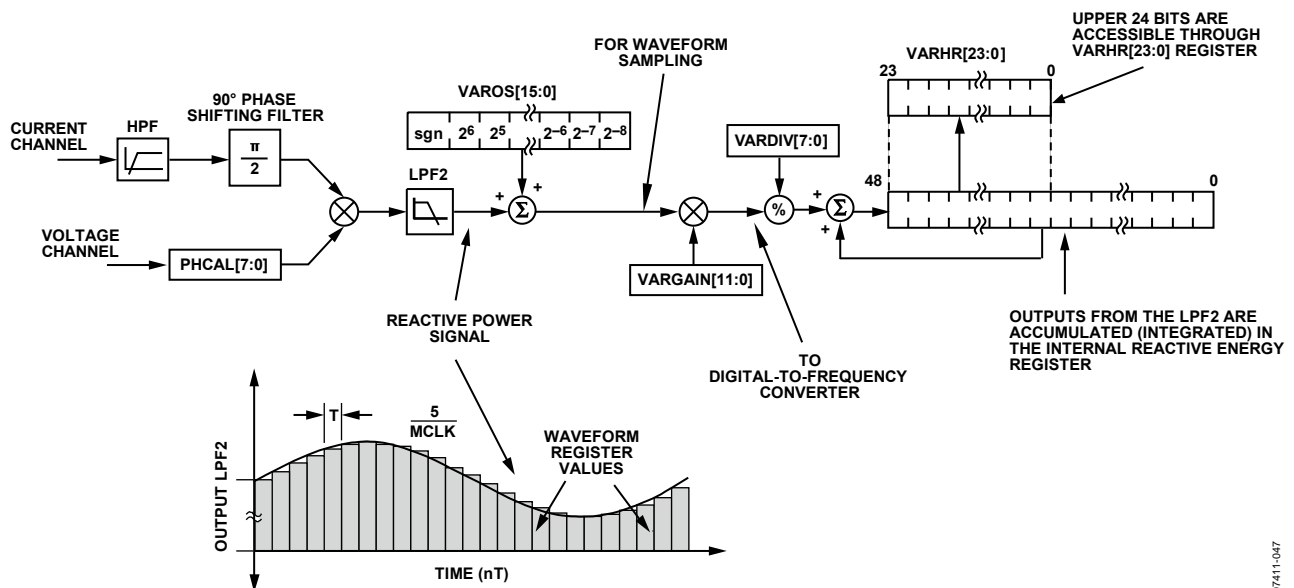

Figure 67. Reactive Energy Calculation
The instantaneous reactive power signal,  $q(t)$ , is generated by multiplying the voltage and current channels. In this case, the phase of the current channel is shifted by  $90^\circ$ . The dc component of the instantaneous reactive power signal is then extracted by a low-pass filter to obtain the reactive power information (see Figure 67).
Figure 67 shows the signal processing chain for the ADE5169 reactive power calculation. As explained in the Reactive Power Calculation (ADE5169) section, the reactive power is calculated by applying a low-pass filter to the instantaneous reactive power signal. Note that, when reading the waveform samples from the output of LPF2, the gain of the reactive energy can be adjusted by using the multiplier and by writing a twos complement, 12-bit word to the var gain register (VARGAIN[11:0], Address 0x1E). Equation 23 shows how the gain adjustment is related to the contents of the var gain register.
The ADE5169 also incorporates a reactive power offset register (VAROS[15:0] (Address 0x21). This is a signed, twos complement, 16-bit register that can be used to remove offsets in the reactive power calculation (see Figure 67). An offset can exist in the reactive power calculation due to crosstalk between channels on the PCB or in the IC itself. The offset calibration allows the contents of the reactive power register to be maintained at 0 when no power is being consumed.
The discrete time sample period (T) for the accumulation register in the ADE5169 is 1.22  $\mu$ s (5/MCLK). As well as calculating the energy, this integration removes any sinusoidal components that may be in the active power signal. Figure 67 shows this discrete time integration or accumulation. The reactive power signal in the waveform register is continuously added to the internal reactive energy register.
As shown in Figure 67, the reactive power signal is accumulated in an internal 49-bit, signed register. The reactive power signal can be read from the waveform register by setting the WAVMODE register (Address 0x0D) and setting the WFSM bit (Bit 5) in the Interrupt Enable 3 SFR (MIRQENH, Address 0xDB). Like the current and voltage channel waveform sampling modes, the waveform data is available at sample rates of 25.6 kSPS, 12.8 kSPS, 6.4 kSPS, and 3.2 kSPS.